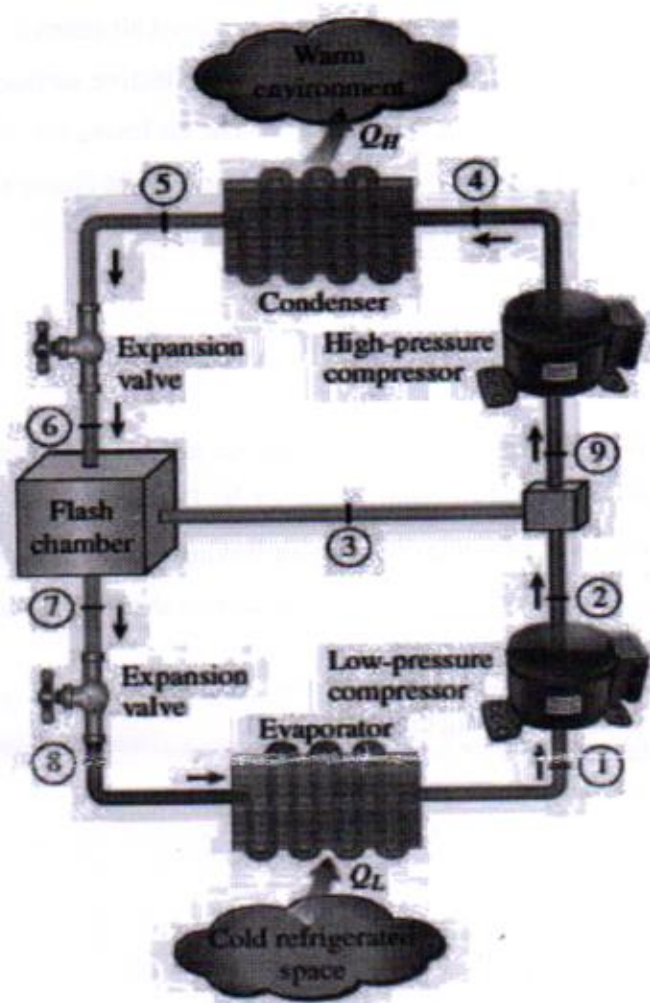

Figure Q2.b Modified Multistage Compression Cycle
- b) The refrigeration cycle mentioned in Q2.a is then modified to a two-stage compression cycle, as shown in Figure Q2.b, by adding a flash gas chamber which operates at an intermediate pressure of 0.4 bar. Assuming the refrigerant leaves both the evaporator and flash chamber as saturated vapour, calculate the required work input of two-stage compression cycle in kJ/kg and COP of the cycle.